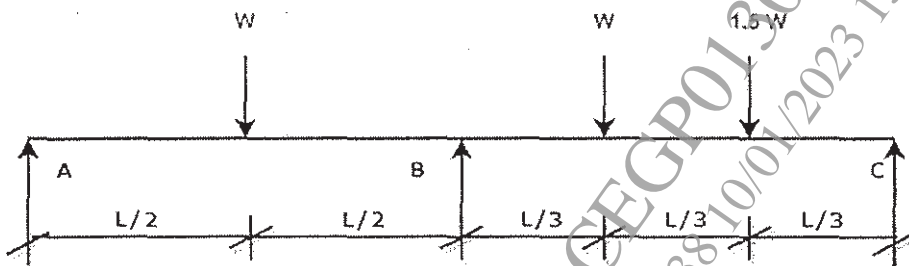

Figure 11
b) Calculate the collapse load W_u , for the beam shown in figure 11. [11]